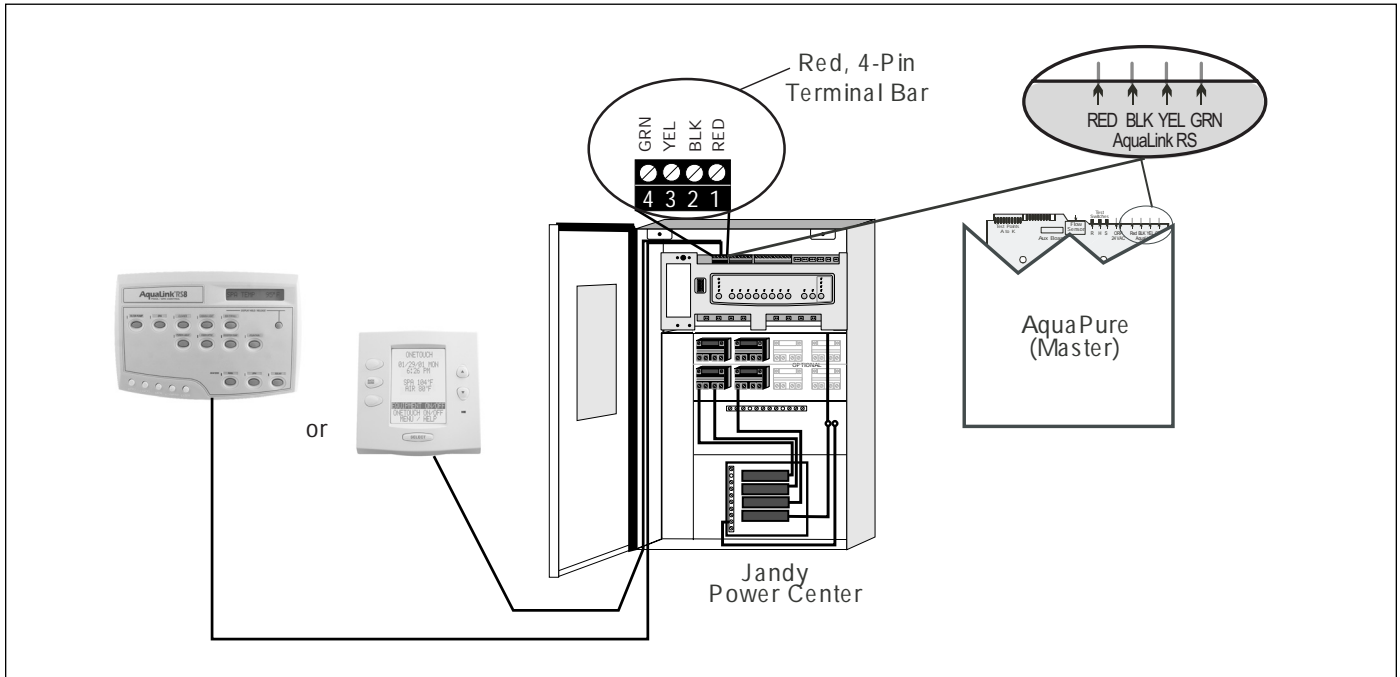

Figure 14. Wiring an AquaPure to an AquaLink RS Control System Network
The Jandy AquaLink RS and AquaPure use a four (4) wire connection to communicate and can be wired up to 500 feet apart. Any outdoor rated four (4) conductor cable can be used. Locate the appropriate screw terminals on the circuit board according to Figure 14. Wire the master AquaPure from the red 4-pin terminal bar to the AquaLink RS red 4-pin terminal bar (see Figure 14).
IMPORTANT Attach the master AquaPure wires to the like-numbered screw terminals on both the AquaPure and AquaLink RS as shown in Figure 14.